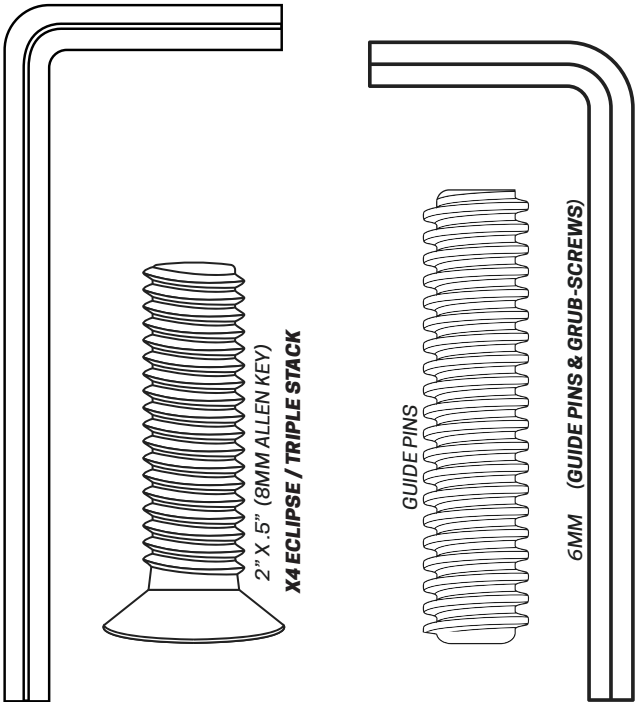

FIGURE 1 - (BOTTOM PLATE / “THREADED HOLES”)
- Once your 36G-Plate (“Bottom Plate”) is unpacked, move into the desired location you will be mounting the umbrella. Once in place immediately remove and discard ALL Grub-Screws from the G-Plate (**FIGURE 1**).
- Locate your pair of Guide Pins and hand tighten into a pair of parallel threaded holes into the 36G-SQ (“Bottom Plate”) you have set into place (**FIGURE 1-A**) .